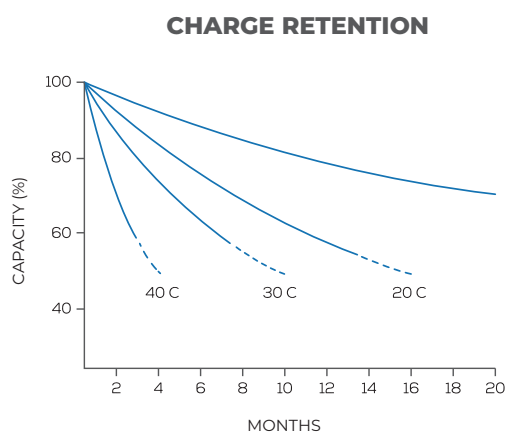
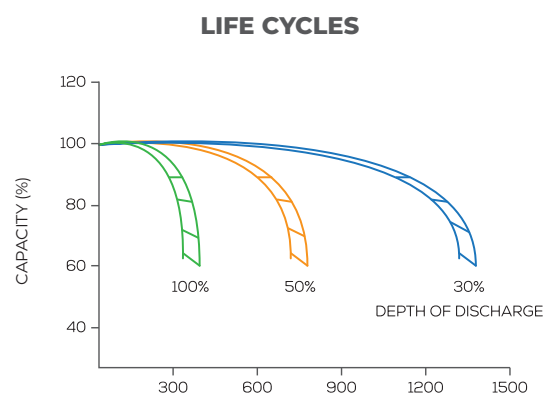

Fig. 1
Fig. 2
**GREENPOWER** is built with special high- density lead-calcium alloy plates, which raise charge retention for a low self-discharge (Fig.1) and a high number of cycles (Fig.2).